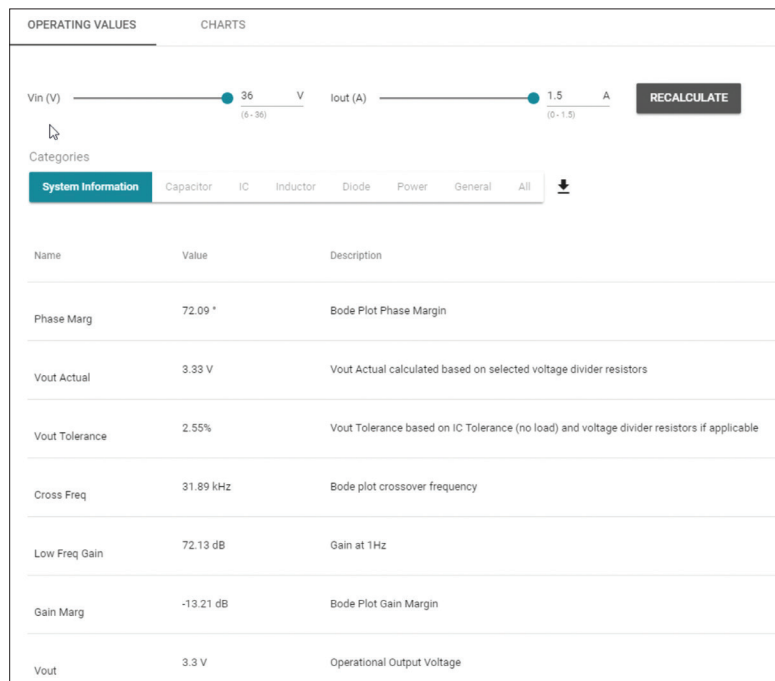

Figure 6.
3. In the '**Modify Operating Point**' window **Figure 6**, enter 6V for  $V_{IN}$  and 0.15 for  $I_{OUT}$  and **Recalculate**, shown in **Figure 7**.